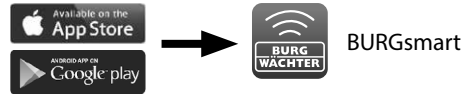

Fig. 1
- 1 First of all, download the *BURGS*mart app in order to be able to set up your new locking system. This can be found in the iOS App Store and at Google Play (Fig. 1).